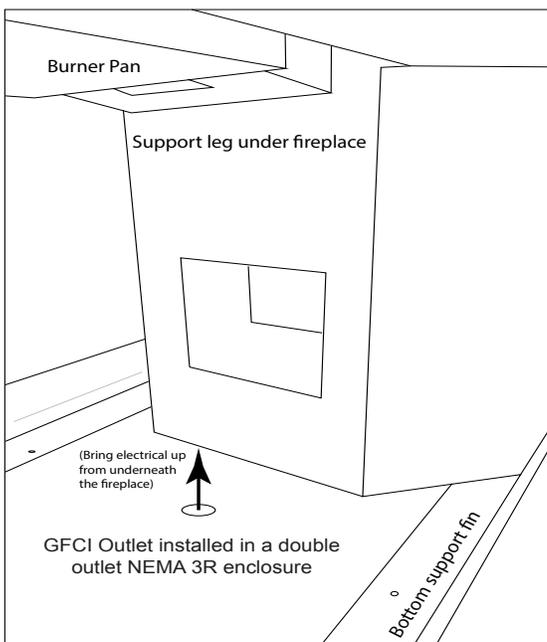
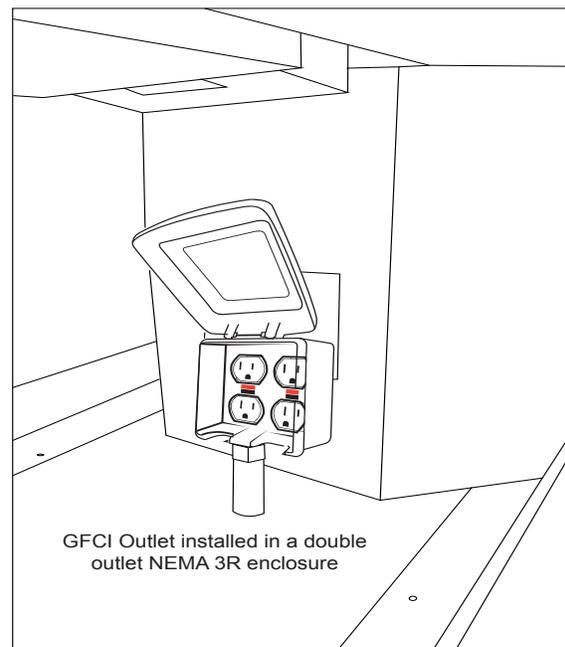

Figure 15 - GFCI box location under fireplace
Figure 16 - Show GFCI box mounted in fireplace
Figure 16 shows GFCI gang box installed.
**Step 2: Find mounting location for the GFCI gang box.** Figure 15 shows flat area underneath burner pan. Mount box underneath the burner pan, below the square (cutout) hole area. Figure 16 shows the GFCI outlet double gang junction box with a weatherproof cover mounted underneath the fireplace.